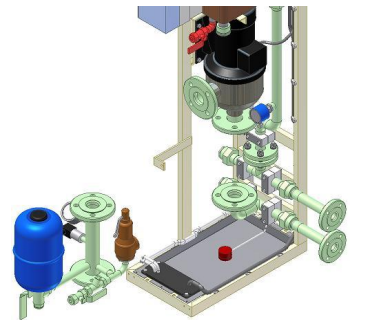

Figure 4.2-2
12. Remove the pipe, HXL040-PS01-5 like shown Figure 4.2-2 using a suitable box wrench. The pressure vessel, safety valve, pressure transmitter and pressure indicator are connected to this pipe. Be careful not to damage these components.